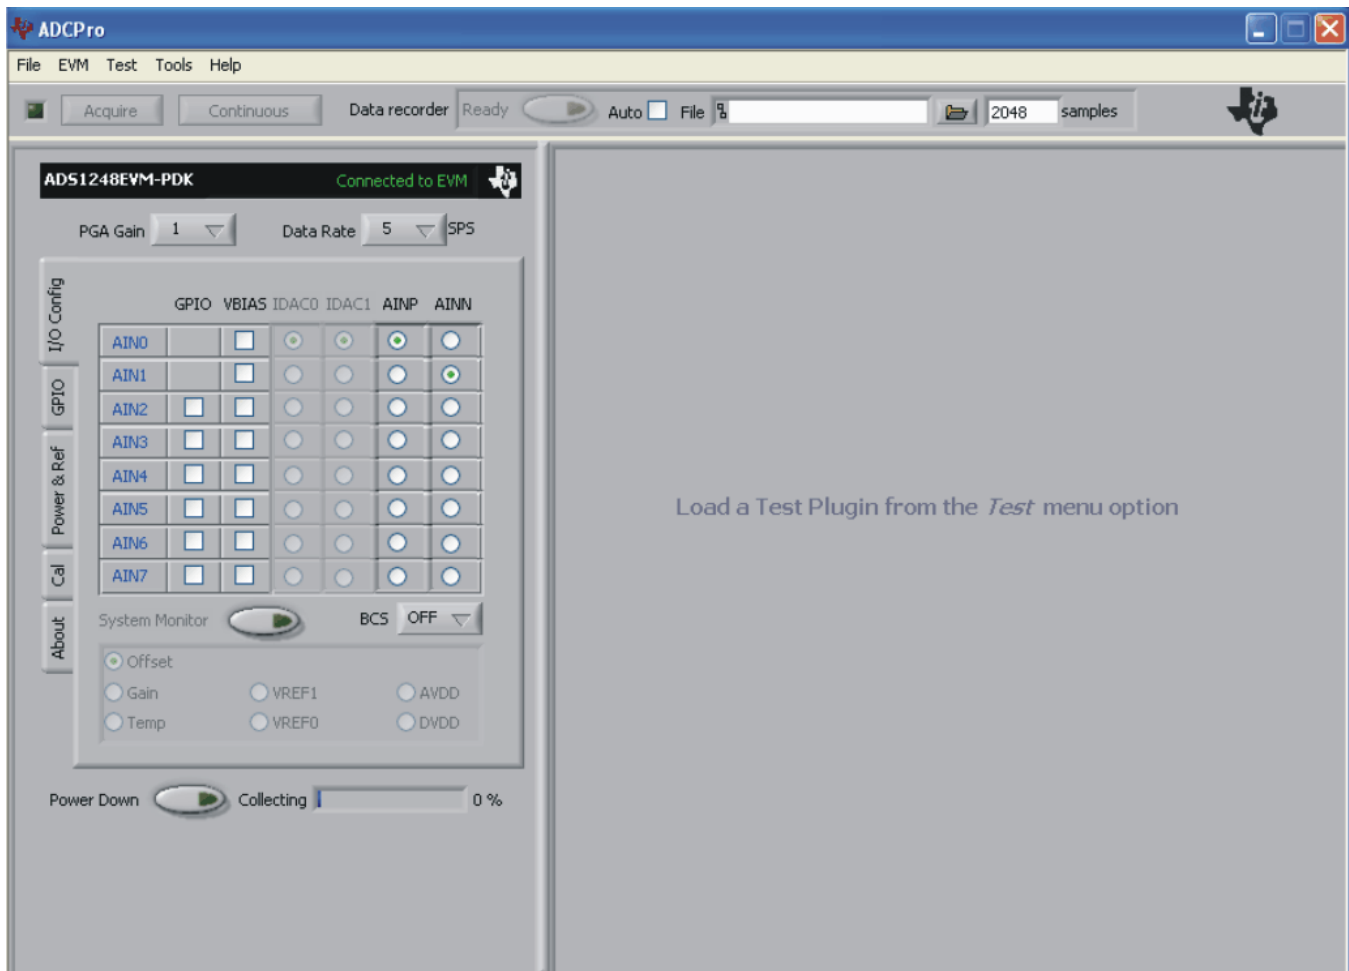

Figure 10. ADS1248EVM-PDK Plug-In Display Window
Step 2. Select *ADS1248EVM* from the EVM drop-down menu. The ADS1248EVM-PDK plug-in appears in the left pane, as shown in Figure 10.